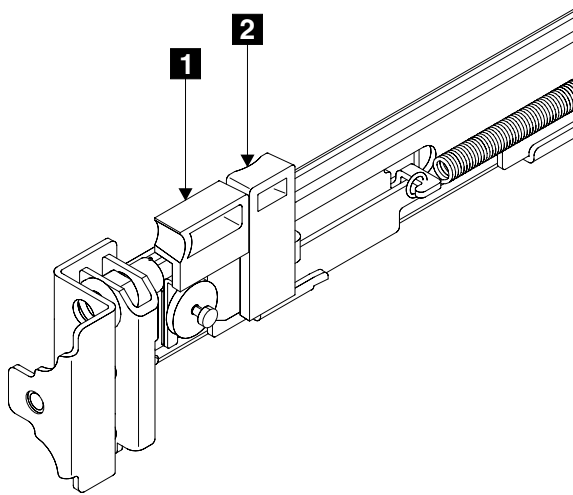

Figure 112. Retracting the latch lock carrier
4. Put your finger against the side of the latch lever **1**, and put your thumb against the front of the latch lock **2** (see Figure 112).